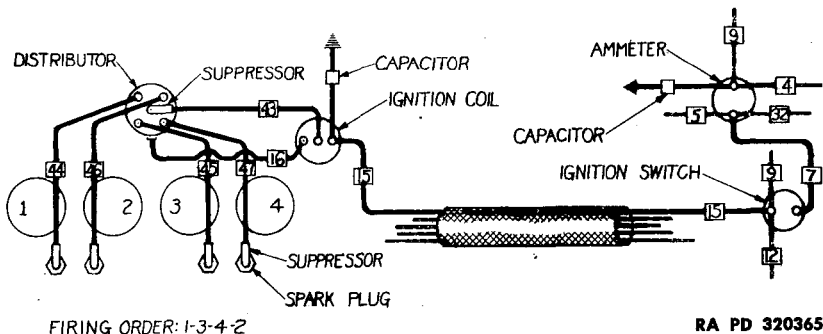

Figure 64—Wiring Diagram (Ignition System)
b. **High Tension Cables.** The high tension cables must be clean and tight, and free from cracks or breaks in insulation. Refer to wiring diagram, figure 64, when replacing cables to insure installation in proper place.
b. **Replacement of Coil.** Remove right hood side plate. Pull high tension wire from center tower of coil (fig. 65). Disconnect wires from other two posts. Disconnect bonding strap from bottom of coil. Remove two nuts holding suppressors and coil assembly to cylinder block. Remove coil. Install replacement coil in reverse order to remove. See figure 64 for correct wiring.